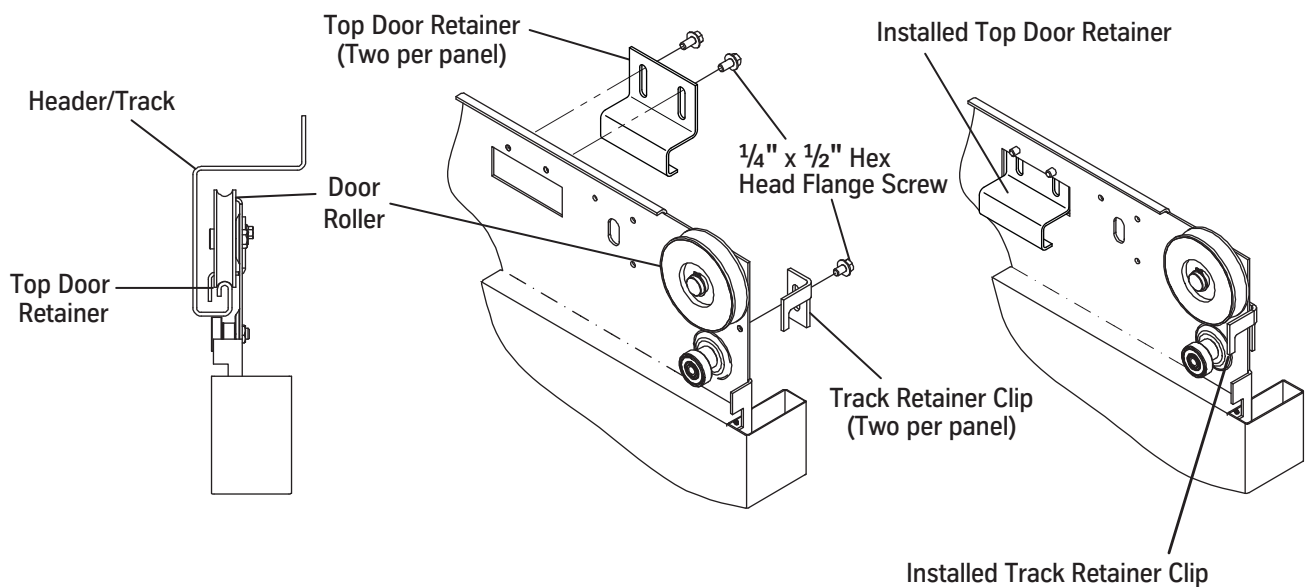

Figure 17 - Top Door Retainer
1. On each side of the door panel, use the provided hardware to install a top door retainer on the hanger. See Figure 17.